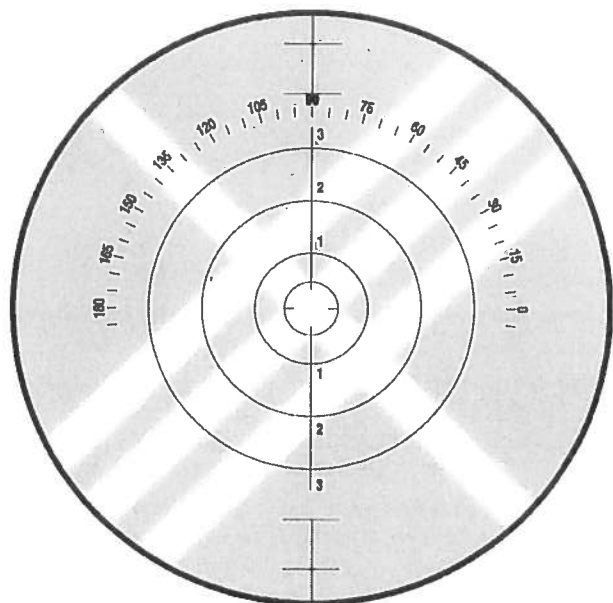

Figure 3
3. Look into the telescope and simultaneously rotate the power drum (Figure 1, No. 10) and the cylinder axis wheel (Figure 1, No. 17) until the bright line target (Figure 3 and 4) appears sharply in focus. Make sure the last movement of the power drum is "topside" toward you.